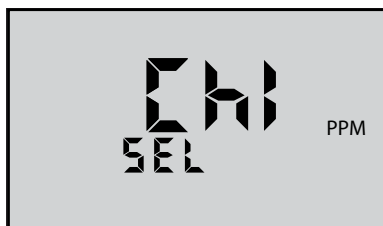

Figure 2
3. Press the  or  keys to toggle between mV (standard ORP mode) and FC^E ppm. The setting chosen is displayed. (See Figure 2.)